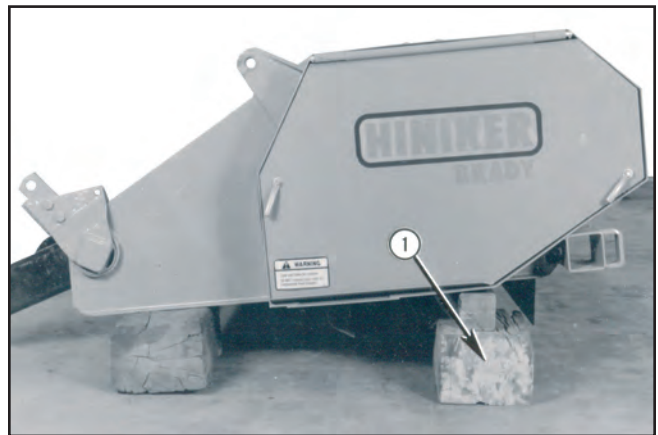

FIGURE 104
Place blocks under each front corner as at (1). These blocks should be approximately 8”-10” high and wide enough for stability. Insure they clear the front flipper shields. Continue lowering the unit onto these blocks. Loosen and remove the sling chains. See Figure 104.